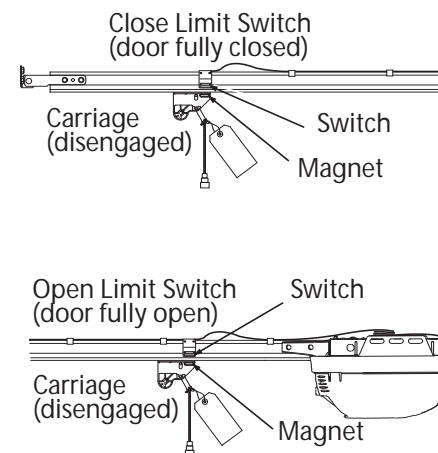

Figure 33 Setting Limit Switches
- A** Setting Close Limit Switch (Figure 33):